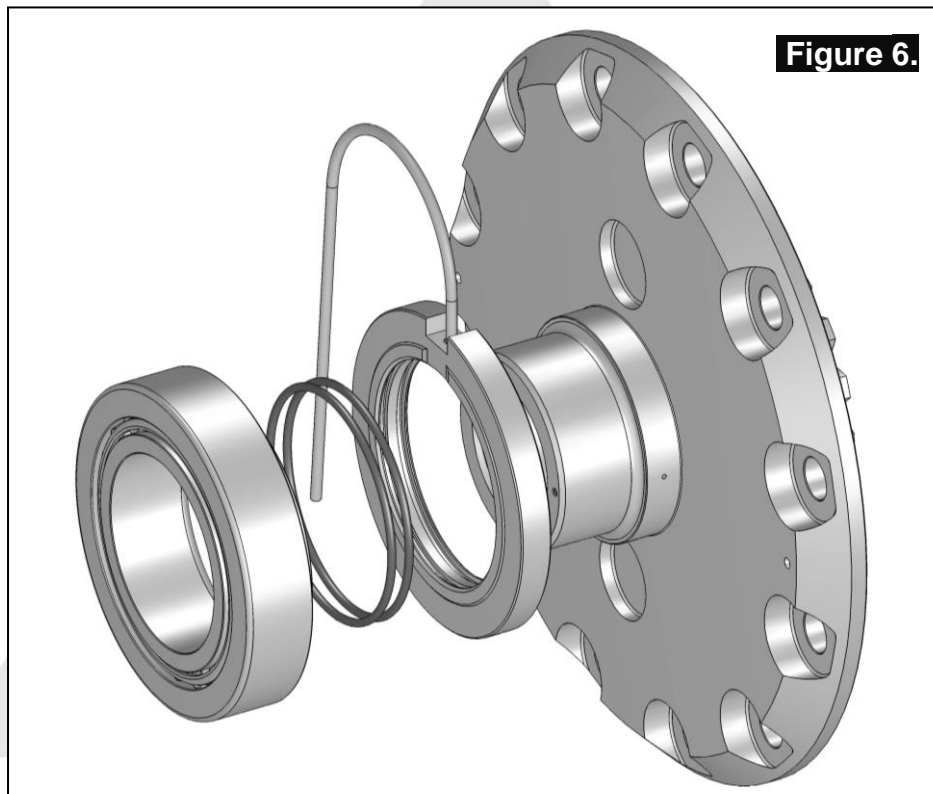

Figure 5.
- Mark a spot on the top of the outside of the differential housing that will be clear of the *Air Locker* once the seal housing tube has been installed. (Fig.5.)